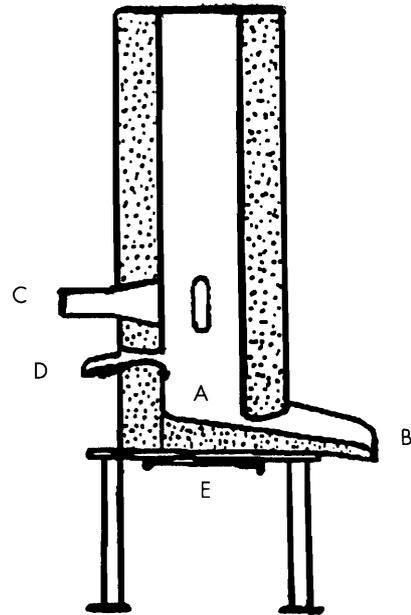

Figure 12-6. Basic construction of a small cupolette. Illustration courtesy of *Building Small Cupola Furnaces* by Stewart Marshall (1996).
Figure 12-6 shows the typical layout for a small cupola furnace. The cupola has a small cylindrical chimney-like bore that is lined with a refractory material. The casting metal is placed directly on a bed of fuel. When it melts, it flows through the glowing coals, superheating as it goes, until it collects at the sloping sand bottom off the cupola (A). On demand, a moldable refractory plug (called “botting”) is dug out from the taphole at the spout (B) and liquid metal is drawn off into a waiting ladle or directly into a mold placed below the spout. The inlet for the air blast (C) is called a “tuyere”